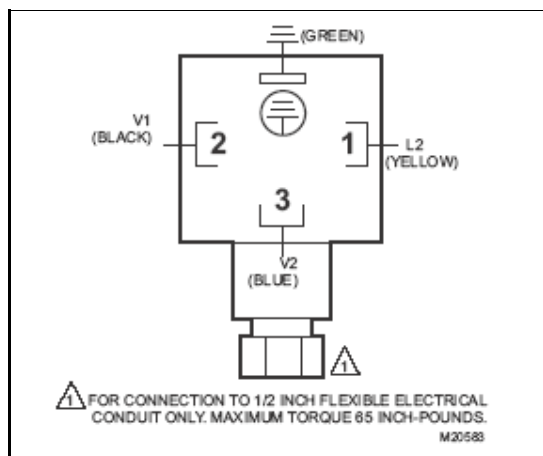

Fig. 2 Four-Pin Electrical Plug Connector
2. Follow the instructions below for wiring the gas valve. See Fig. 2 and 3 for reference.